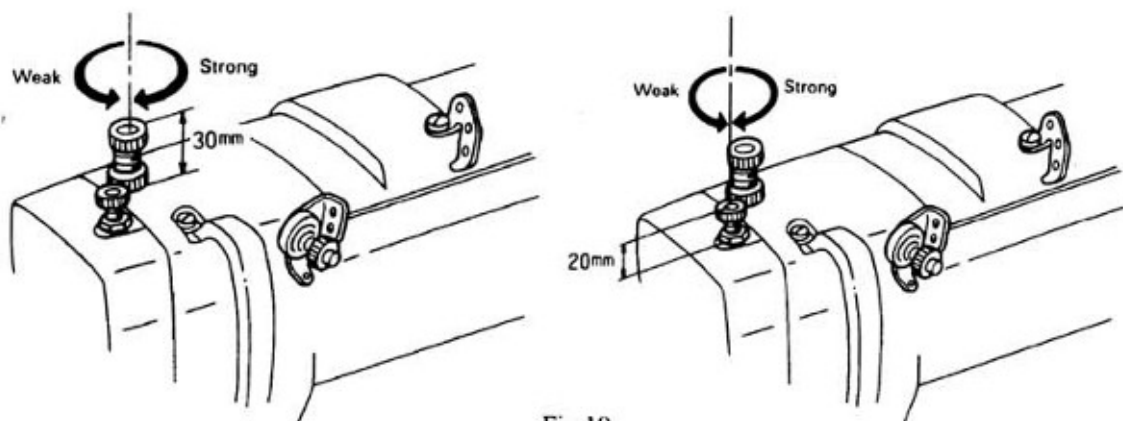

Fig.19
18. Adjustment of presser pressure (Fig.19):